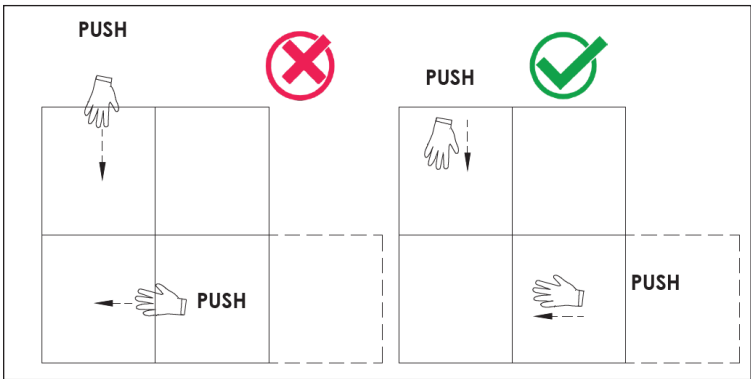

Figure 38: Avoid Pushing on Modules Edges
3. Avoid pushing modules on the tiles edges. Refer to **Figure 38**.